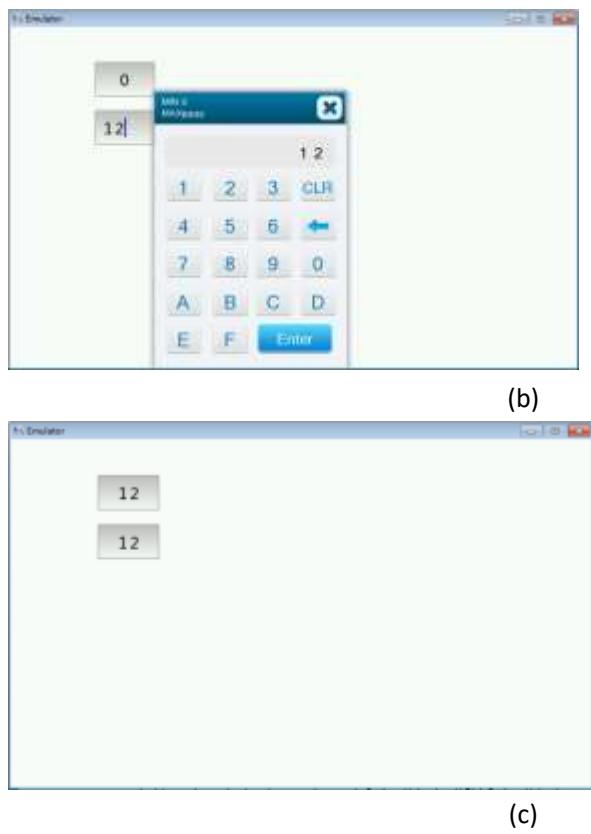

Fig. 16
- (8) Debug with the simulator to view the design effect, as shown in Fig. 16.